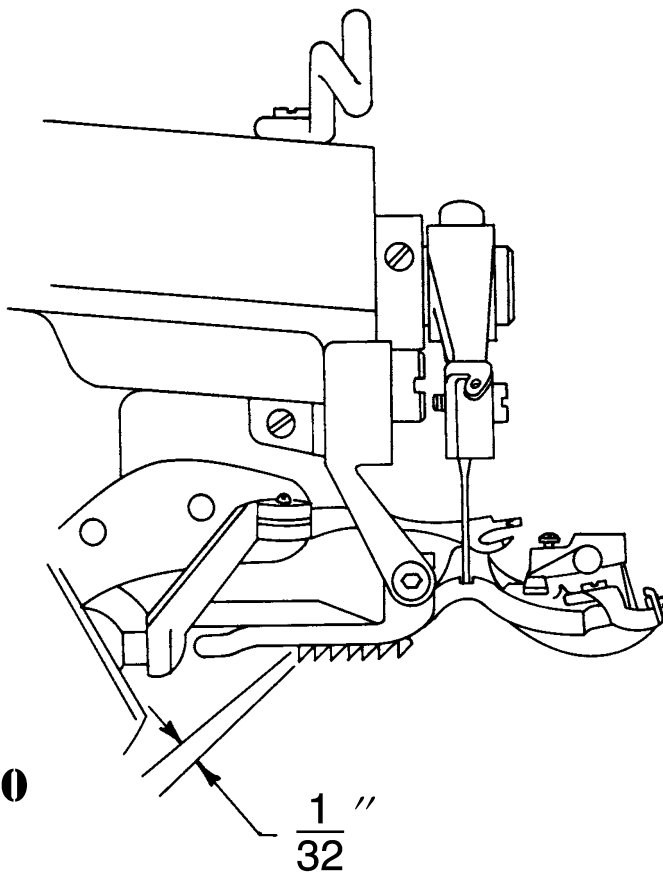

FIGURE 10
2. Before tightening the attaching screws check to see that the feeder is set to the proper depth. Referring to **Figure 10** this should be approximately $\frac{1}{32}$ " (.795mm) below and parallel to the bottom of the presserfoot for all light and medium weight fabrics. For heavy fabrics, the setting should be approximately $\frac{1}{16}$ " (1.59mm) below and parallel to the bottom of the presserfoot. These dimensions are intend as guides and may be modified as required by the specific fabrics. Once the proper depth is established, rotate the handwheel slowly in a direction away from the operator and check to insure that the feeder clears the looper (**see Figure 9, Point "H"**) and also clears both sides of the feeder slot in the presserfoot. Firmly tighten fee attaching screws (**Figure 9, Items "B" & "C"**) before resuming sewing.